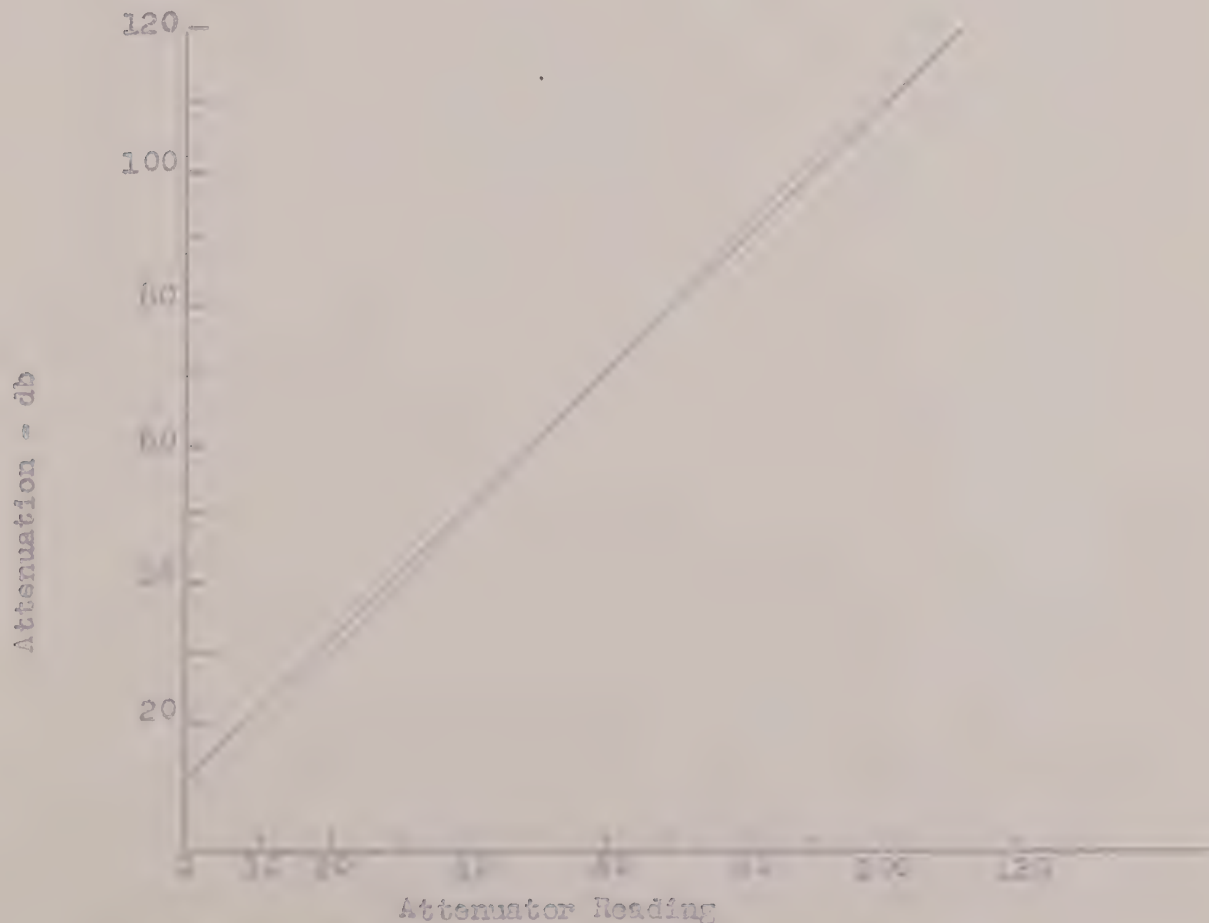
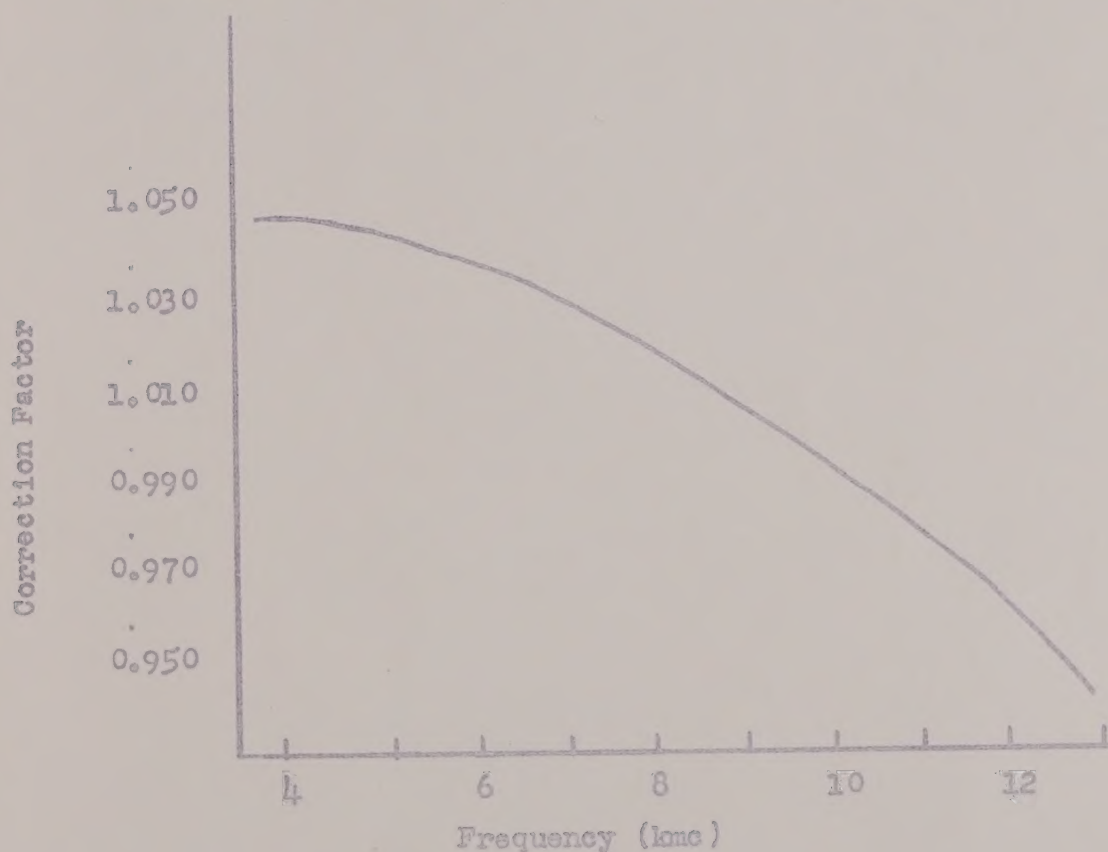

FIG. 4 - ATTENUATOR CALIBRATION CURVE AT 9130 MC
FIG. 5 - FREQUENCY CORRECTION FACTORS
4. Physical Description (See Fig. 4)
adjustment. The attenuator scale has two major divisions marked 50 and 100, and twenty-five sub-divisions, each corresponding to a change of 5 points on the scale. Each full rotation of the barrel should be made before the 100-division mark is reached. A calibration curve is provided (Fig. 4). The output of the attenuator is another
The calibration chart, Figure 4, shows the effect of this error. It is assumed that the impedance of the exciting line is 50 ohms. The attenuation values apply only to this impedance. If other impedance values are used, the calibration curve should be corrected if sources of other impedance values are used.
At higher frequencies the attenuation is reduced due to the wave-guide approaching its cut-off frequency. To correct for this effect, multiply the calibration chart attenuation indicated in Figure 4, by the correction factor. For the operation frequency, Figure 5 indicates the correction factor to be applied, according to the formula: